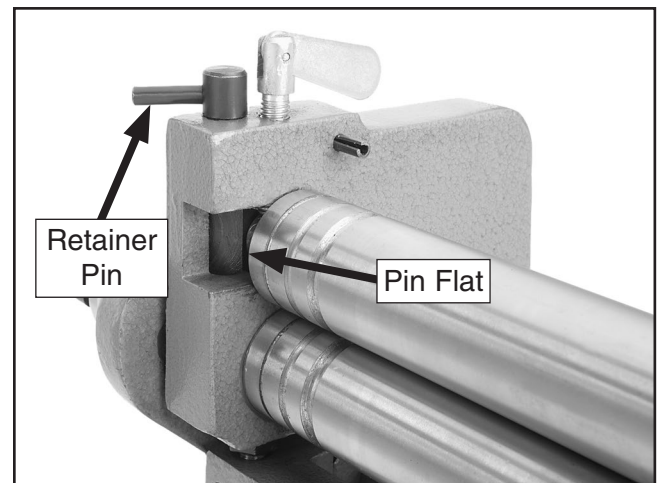

Figure 29. Top roller retainer pin rotated to release the roller.
1. Rotate the top roller retainer pin until the flat portion of the pin is facing toward the roller or to the right, as shown in **Figure 29**.